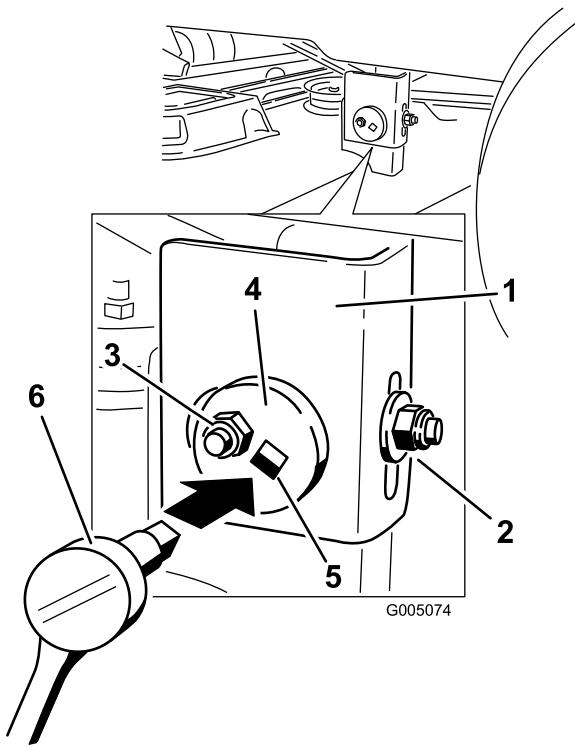

Figure 36
- Move the left side of the machine. Loosen, but do not remove, the rear locking nut on the hanger bracket (Figure 36).
8. Loosen the side-locking nut on the hanger bracket just enough so that you can adjust the eccentric plate (Figure 36).
9. Stop the deck at the adjusted position and tighten the side-locking nut on the hanger bracket to hold the new position (Figure 36).